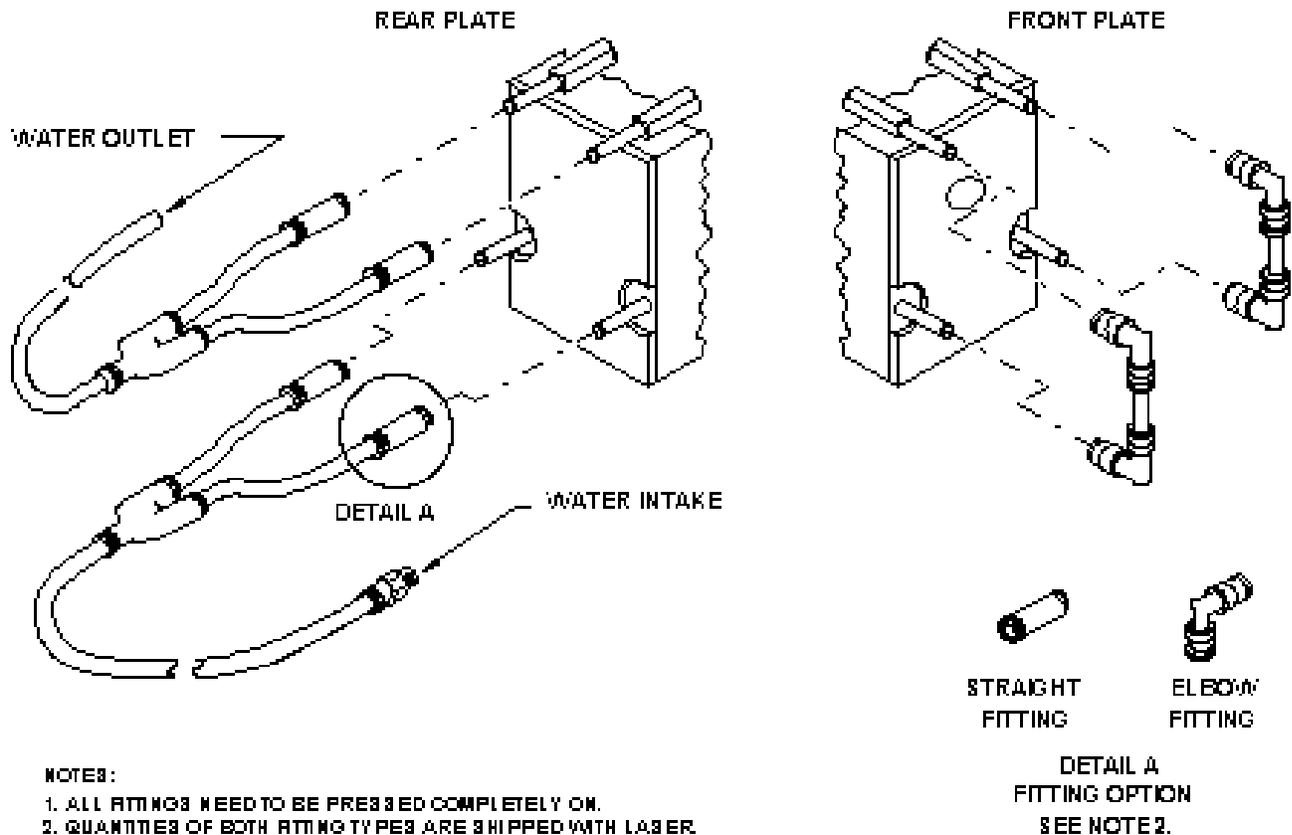

Figure 4.3
Water enters the central 1/4 inch cooling tubes and exits through the top mounted cooling tubes. Both circuits must be used in parallel to maintain thermal balance. A cooling intake and exit manifold using a quick-disconnect Camozzi system (refer to Fig. 4.3) is shipped as a kit with the laser. The cooling kit also includes quantities of both straight- and elbow-fittings. The two "U" shaped connections should be installed on the front. The quick disconnect fittings can be removed from the tubing by compressing the front ring of the fitting against the body. Other compatible Camozzi fittings can be ordered from local supply houses such as Fittings, Inc. at (206)767-4670.